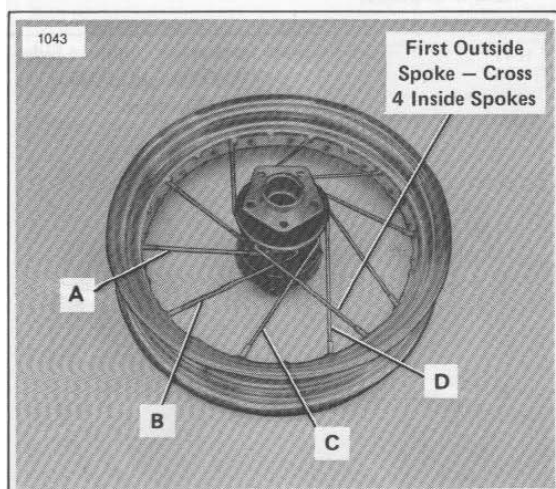

Figure 2-13. Cross-4 Pattern
7. See Figure 2-13. Swing the outer spoke in the opposite direction crossing over 4 inner spokes, and secure the spoke in the nearest hole angled towards it. Repeat the procedure for all outer spokes.